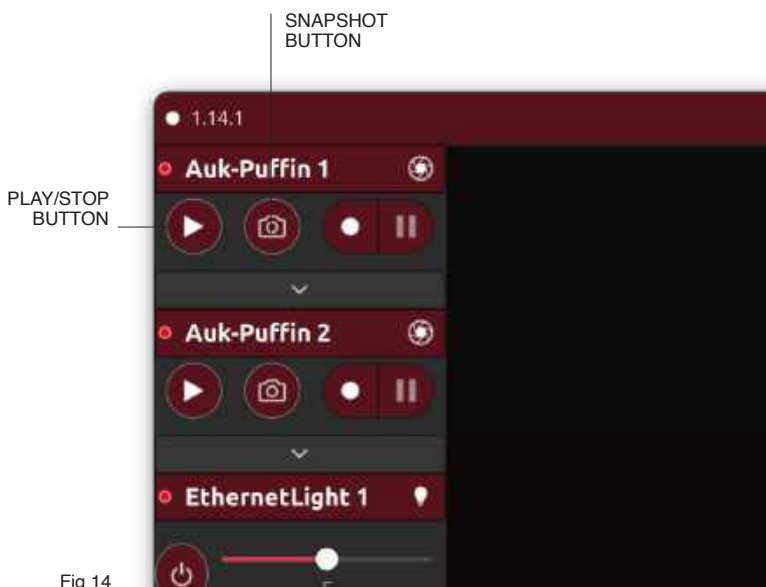

Fig 14
7. Start / Pause / Stop **video recording** of each video feed by clicking on the **Record** button on the navigation pane or on the main video feed. When the video stream is recording, you can stop recording by clicking the left half of the button or pause the recording with the right half of the button. (Fig 14)